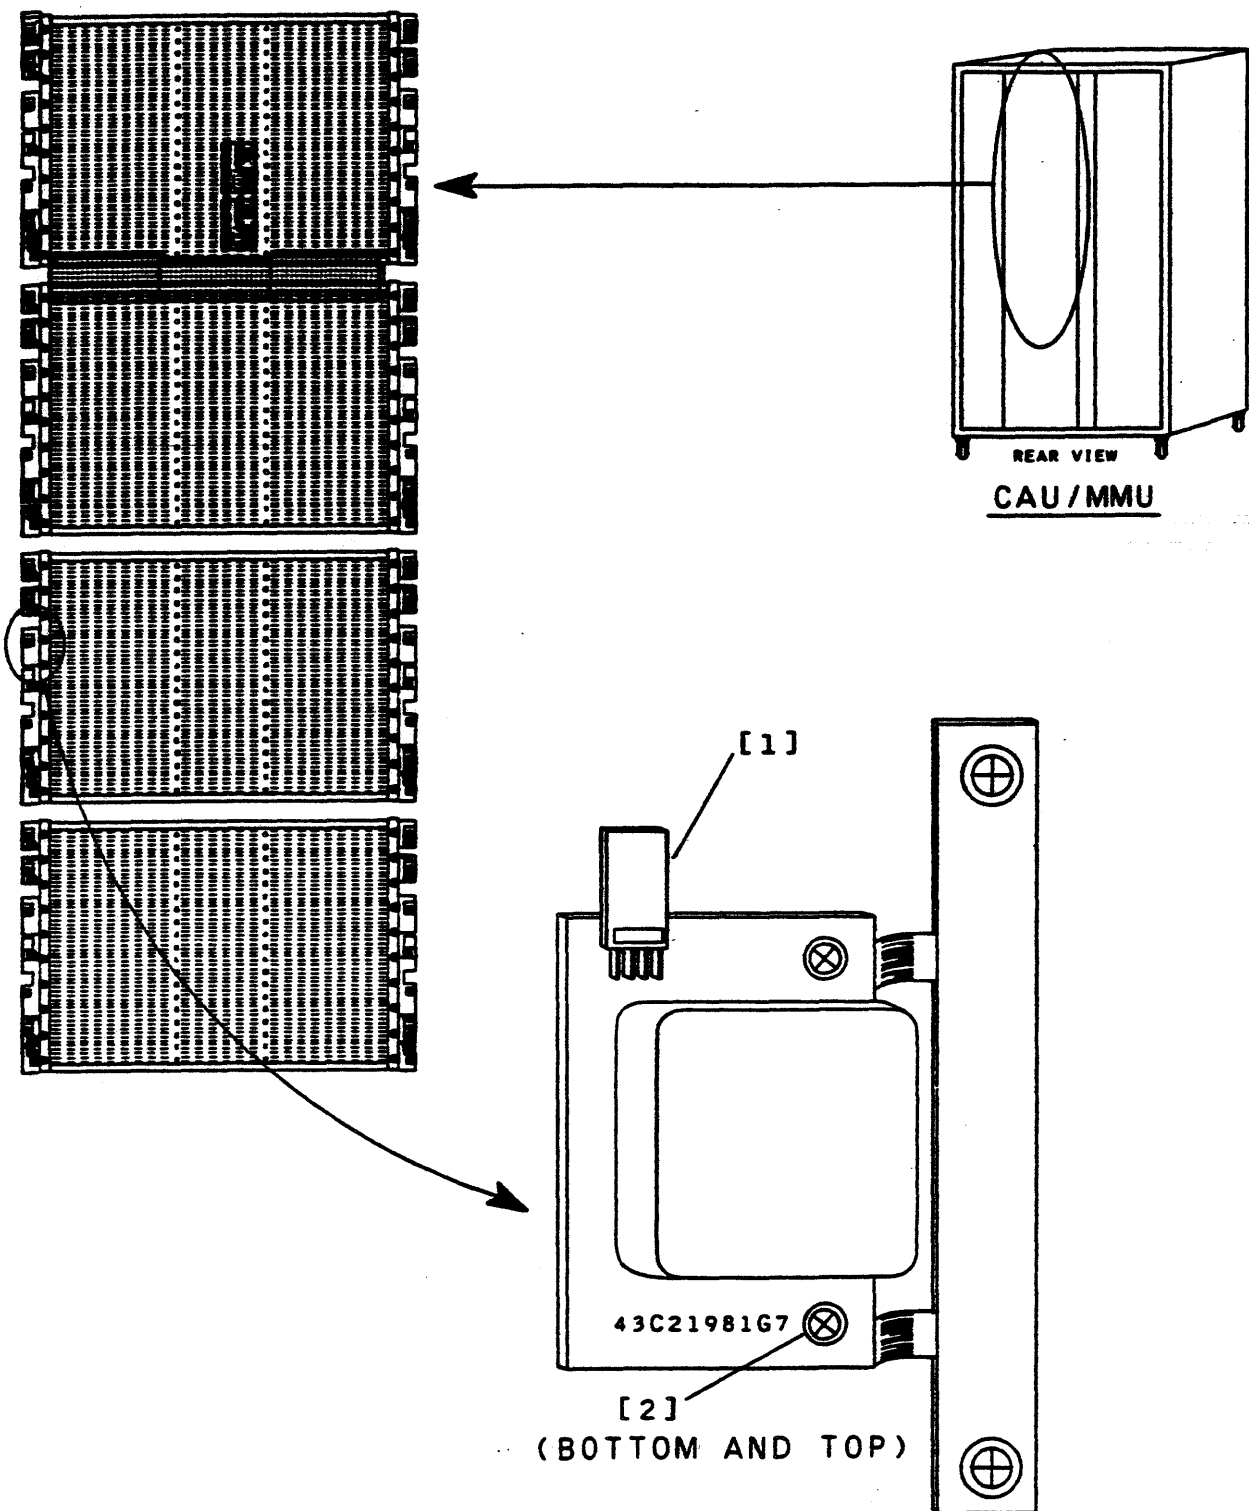

FIGURE 2.25-1. OSCILLATOR PWB ASSEMBLY REMOVAL/INSTALLATION
5. Using fuse cartridge location diagram (Figure 2.25-1, Sheets 1 through 3) identify the fuse location.
5. Using hands, disconnect plug from faulty PWB assembly (Figure 2.25-1, [1]).
6. Using cross-tip screwdriver, remove faulty board from bracket assembly (Figure 2.25-1, [2]).